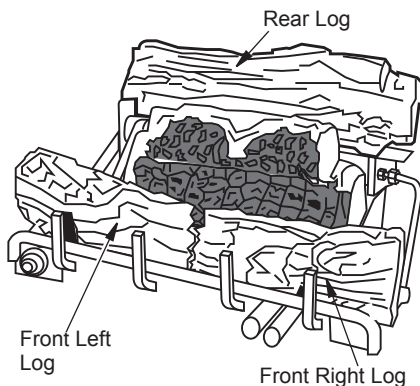

Figure 24 - Installing Logs
- Place front left and right logs and rear log as shown in Figure 24.